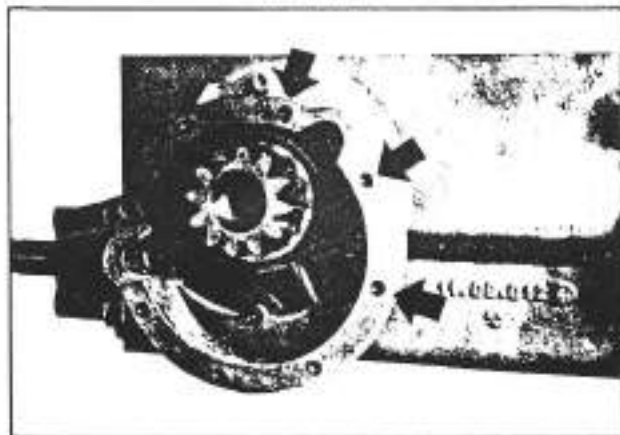

Fig. 3-57. Removal of the wheel hub
Isolate the wheel hub that needs overhaul and remove the eight bolts which attach the hub to the wheel reduction gear (see figure 3-57) and proceed with the following operations:
- a. Take out the mounting bolts from the reduction gear casing (see figure 3-57) and remove the unit.